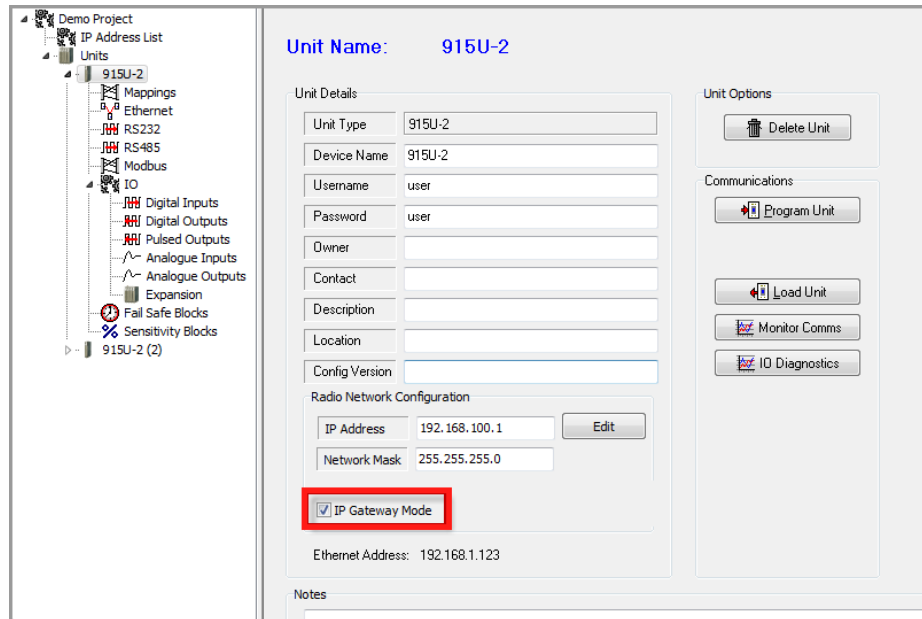

Figure 105 IP Gateway Mode
- b. Select the **IP Gateway Mode** checkbox (see Figure 105).